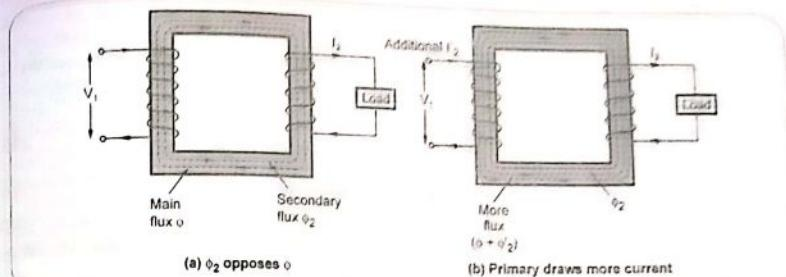

Fig. 5.8.1 Transformer on load
- This flux opposes the main flux  $\phi$  which is produced in the core due to magnetizing component of no load current. Hence the m.m.f.  $N_2 I_2$  is called demagnetizing ampere-turns. This is shown in the Fig. 5.8.1 (a).
- This additional current drawn by primary is due to the load hence called load component of primary current denoted as  $I'_2$  as shown in the Fig. 5.8.1 (b).